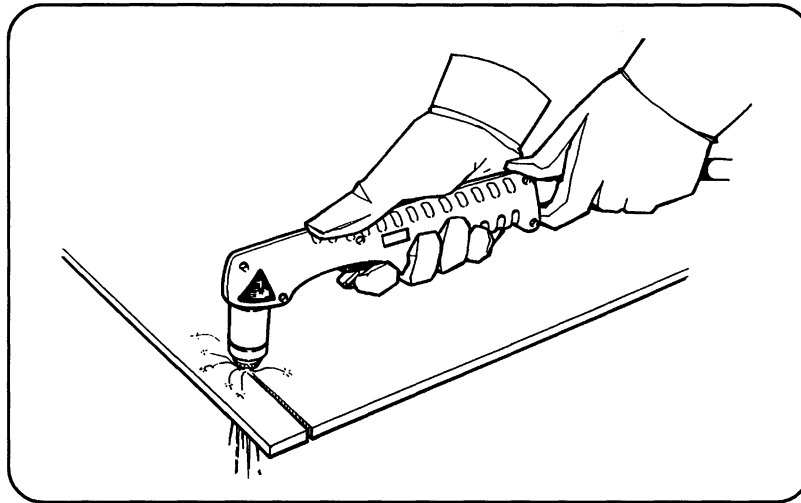

Figure 4-10 Dragging the Torch
- Hold the torch nozzle at a vertical position and watch the arc as it cuts along the line (Figure 4-10). By lightly dragging the nozzle on the workpiece, you can maintain a steady cut. For straight-line cuts, use any straight edge as a guide.